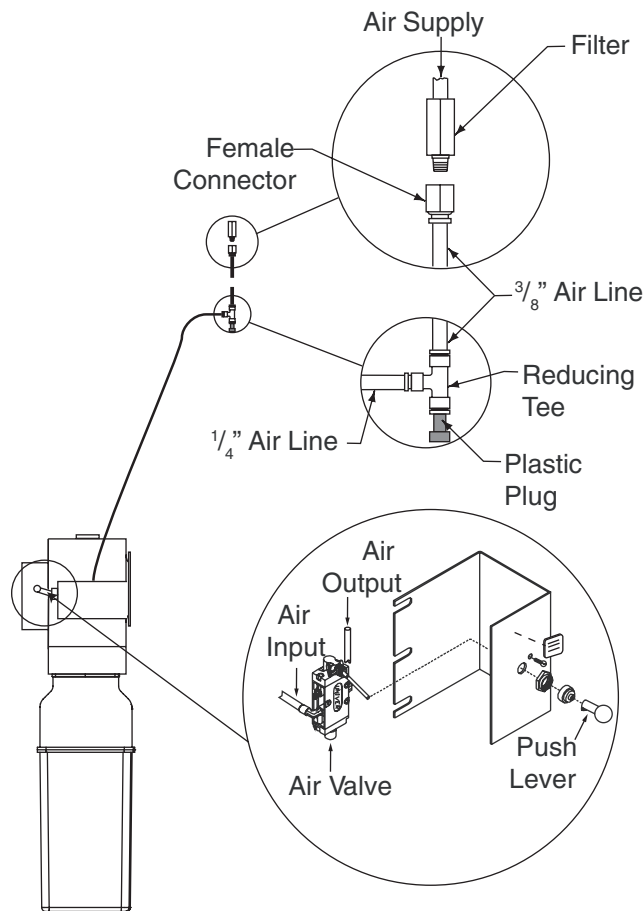

Fig. 24
- Connect air valve to Reducing Tee, Fig. 24. Cut provided  $\frac{1}{4}$ " air line tubing with sharp blade to length as required. Tubing must be cut square with no burrs.
- Use Housing Collar to secure the Air Valve to the Air Valve Bracket, Fig. 24.
- Connect Reducing Tee to female connector, Fig. 24, using  $\frac{3}{8}$ " air line tubing. Attach filter to female connector and connect into existing facility air supply. Make sure plastic plug is in bottom opening of Reducing Tee.
- Actuate air valve and check latch operation on all four (4) corners. When releasing locks, the locking latch should pull back flush with yoke end to clear the latch bar located in all four (4) columns, Fig. 24. Adjust, if required, by removing cotter pin and washer holding Slotted Bracket on locking latch and screwing Slotted Bracket in to move it toward the air cylinder. After adjustment, replace washer and secure Slotted Bracket with a NEW cotter pin. Tighten jam nut. Apply Loctite® to jam nut to hold in place.